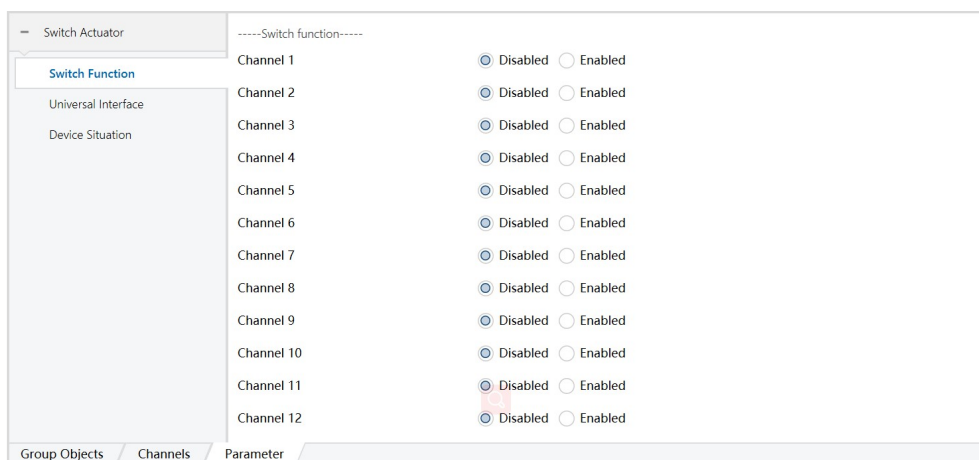

Figure 6.1.1
1) Open the 20A series switching actuator module parameter setting interface in ETS5, as shown in Figure 6.1.1. The parameter "Channel X" indicates the output of the corresponding channel. The parameter "Field control" indicates the field control function. When the "off" command is sent, the relay status of each channel is saved and closed. When the "on" command is sent, the last saved relay status is called. (Note: The "off" command cannot be sent twice in a row, because the current state is saved when the "off" command is sent for the first time. However, when the "off" command is sent the second time, the All-off state after the first "off" command is saved, covering the state of the first saved field).